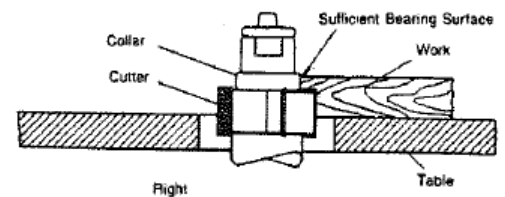

Fig. 12
- Fig. 12 illustrates sufficient bearing surface.